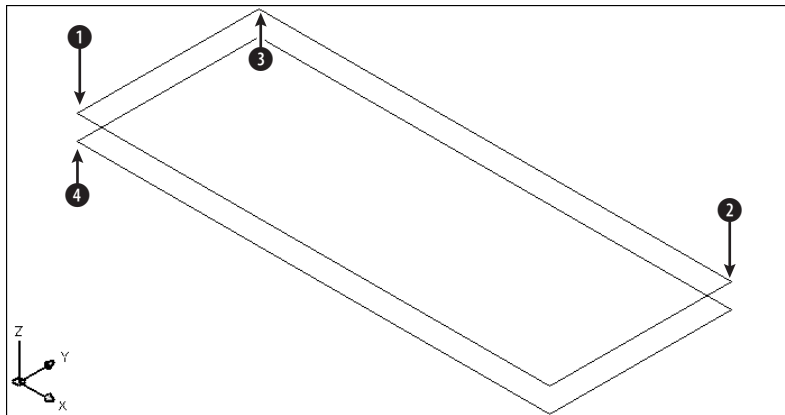
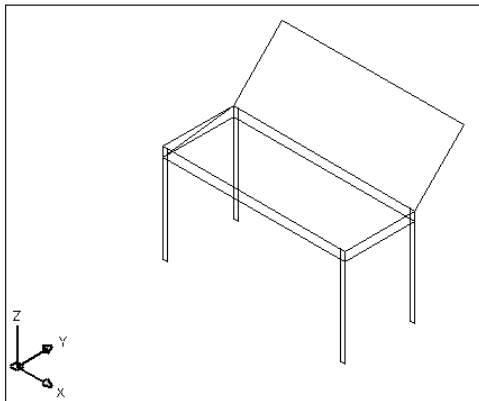

Figure 21-7: The two rectangles, shown from Southeast Isometric view
Figure 21-8: The completed wireframe piano bench
5. Choose View ⇨ 3D Views ⇨ SE Isometric. Now you can see the two rectangles, as shown in Figure 21-7.
Specify first point: *Pick the endpoint at 1 in Figure 21-7.*
11. To draw an open cover for the piano bench, start the LINE command. Start it at the endpoint at ② in Figure 21-7. At the Specify next point or [Undo]: prompt, type **@15<90<45** ↵. You know the length of the line because the cover is the same as the width of the piano bench. At the Specify next point or [Undo]: prompt, turn on ORTHO, move the cursor parallel to the length of the bench, and type **39**. At the Specify next point or [Close/Undo]: prompt, use the Endpoint object snap to pick ③. End the LINE command. Zoom out and pan so you can see the entire bench.
12. To draw some bracing inside the bench, start the LINE command again. At the Specify first point: prompt, choose the endpoint at ④. At the Specify next point or [Undo]: prompt, type **@15<90,2** ↵. End the LINE command. Here, cylindrical coordinates are ideal because you don't know the length of the line but you know the change in the X and Z coordinates (the width and the height of the bench's body, respectively).
13. Save your drawing. It should look like Figure 21-8.